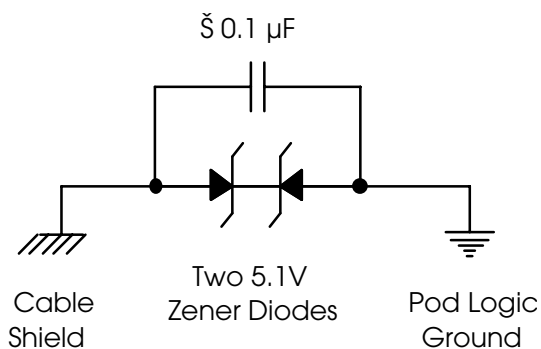

Figure A.2 PCC-10 Card Shielded Pod Cable Circuit
- If the pod ground and cable shield need to be connected (to improve ESD or EMI performance of the pod) then the additional circuitry shown in figure A.2 should be used.
The two (2) zener diodes allow a 5V offset between the cable shield and pod logic ground. This circuit in figure A.2 is necessary to ensure proper Vcc sequencing during pod cable insertion into the PCC-10 Card. The $\bullet 0.1\mu\text{F}$ capacitor can be placed between the shield and pod logic ground to improve EMI performance.